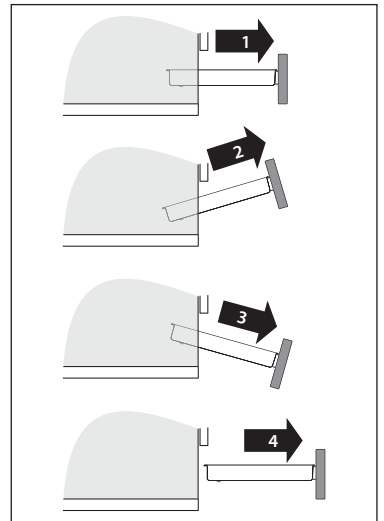

Figure 5b Removing the drawer
- Remove the drawer (Fig. 5b).